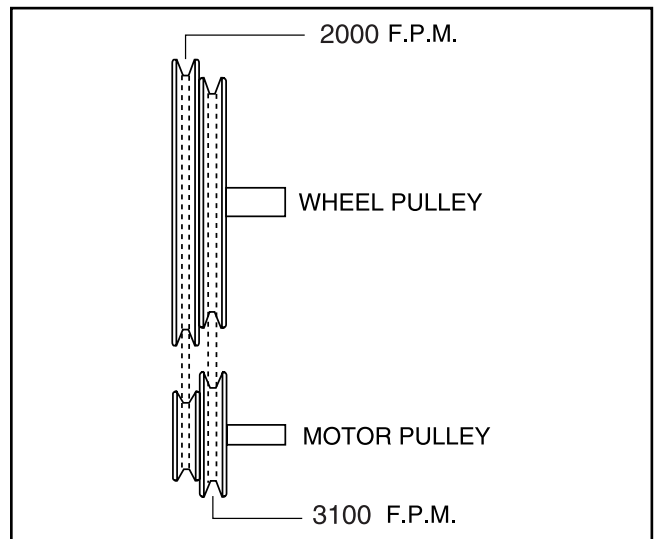

Figure 25. Wheel to pulley alignment.
3. Pivot the motor up to loosen the V-belt. Move the V-belt into one of the grooves shown in **Figure 25**, depending on the desired speed.